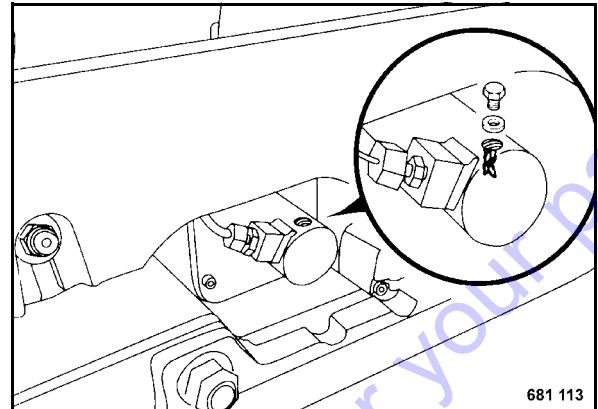

Fig. 69
- Wait until all air has escaped (Fig. 69).